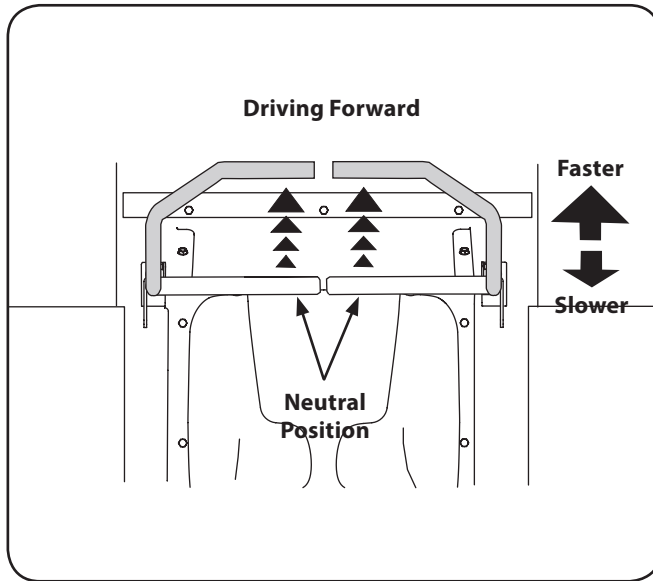

Figure 5-2
1. Slowly and evenly move both drive control levers forward. The tractor will start to move forward. See Figure 5-2.